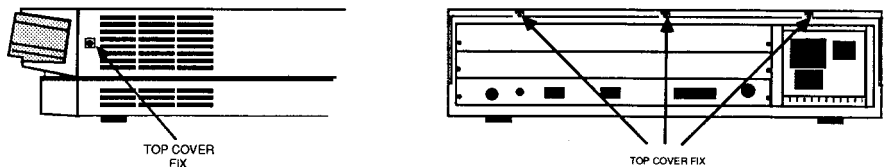

Fig. 1: The position of the screws holding the top case.
2. Locate the screws holding the top case in place (see Fig. 1 below). Remove the three screws at the top rear of the unit, then remove the single screw on each side of the unit.